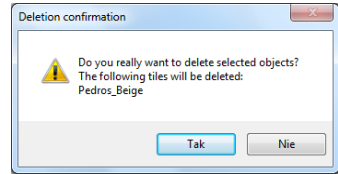

Fig. 380 – request for confirmation of removing a tile from the user database
- **Delete selected object** – deletes the selected tile, collection or collection type (also under); each time a request for confirmation, that the selected element is to be deleted will be displayed, because it is not possible to undo this action (Fig. 380);